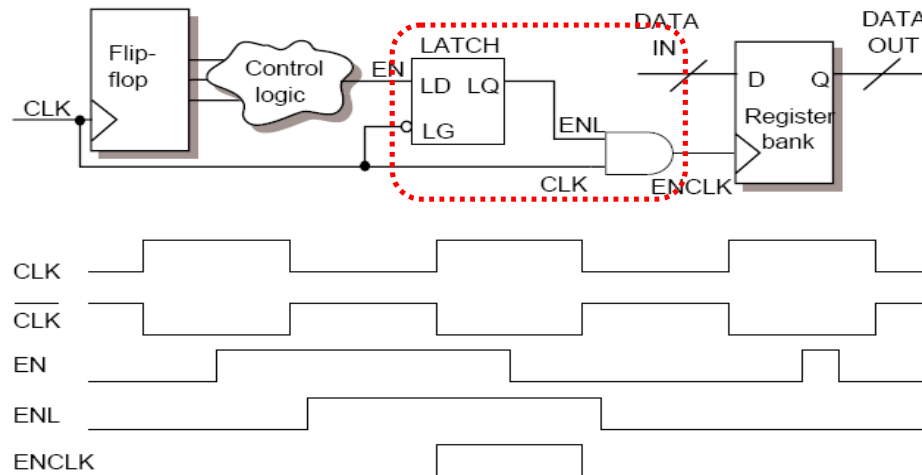
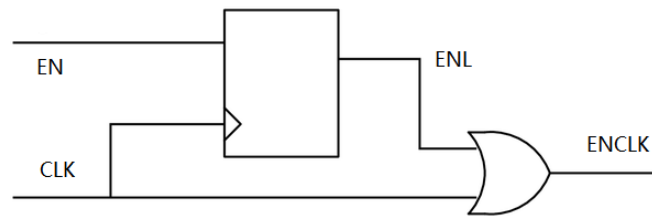

Fig. 4: The circuit in Fig. 2 with integrated clock gating cell.
Fig. 5: Integrated clock gating cell using DFF.
To solve this problem, we introduce the integrated clock gating cell, which is formed by one LATCH followed by an AND gate as shown in the circuit in Fig. 4 below:
But there is again a problem. Please notice that we use a latch here. Latch-based design is usually avoided in IC design except in processor design because latch-based design is level sensitive, entails time borrowing, complicates static timing analysis (STA), etc. The solution is to replace the integrated clock gating cell using a latch with one using a DFF and an OR gate as shown in Fig. 5:
1. Please draw a circuit diagram like the one in Fig. 4 but replace the latch-based integrated clock gating cell with the DFF-based one as shown in Fig. 5. And please draw a timing diagram to show how DFF-based clock gating cell works and how it can also avoid glitches in the output gated clock.